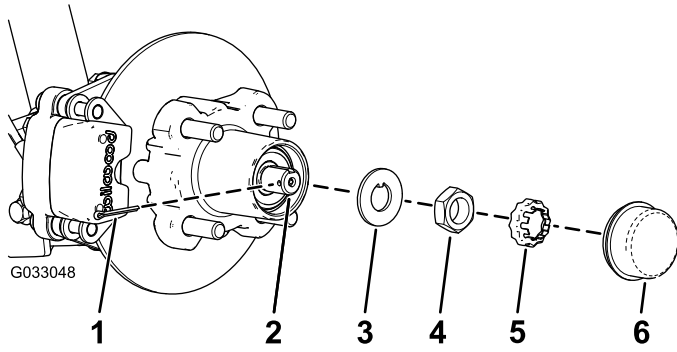
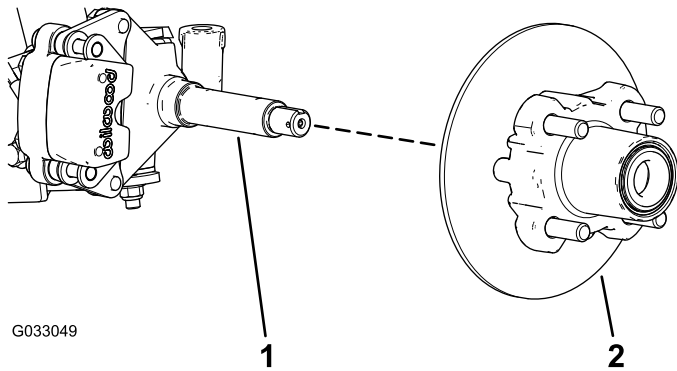

Figure 31
Figure 32
- Remove the dust cap from the hub (Figure 31).
- Remove the cotter pin and nut retainer from the spindle and spindle nut (Figure 31).
- Remove the spindle nut from the spindle, and separate the hub and rotor assembly from the spindle (Figure 31 and Figure 32).